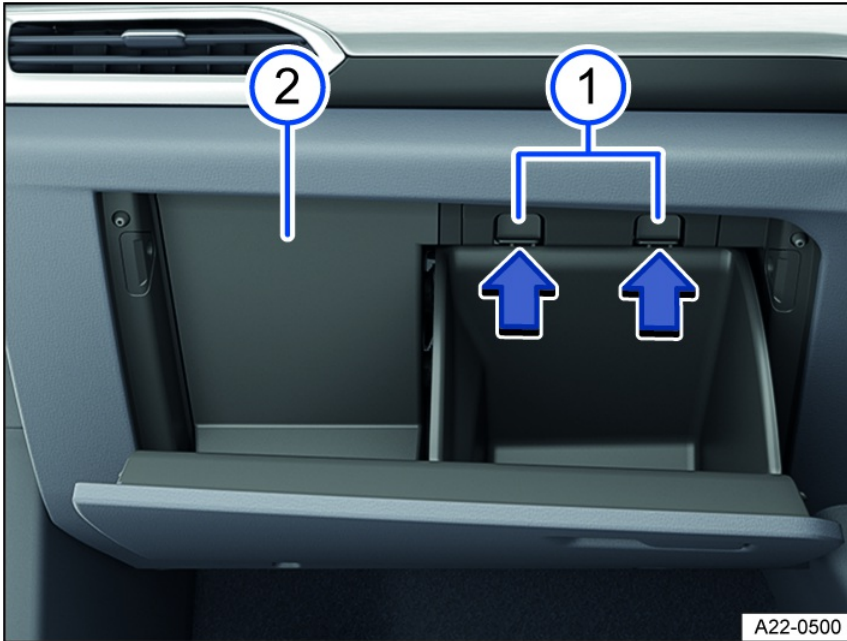

Fig. 148 On the passenger's side: Fuse box in the instrument panel (right-hand drive vehicles).
2. Push the catches in the direction of the arrow while at the same time opening the glove compartment further *fig. 148* ①.
3. Reach to the side behind the cover and pull it backward *fig. 148* ②.